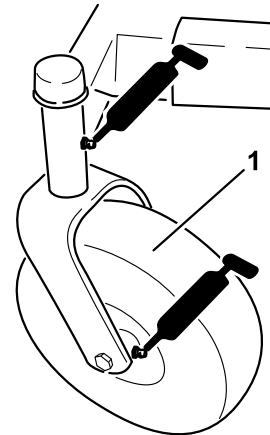
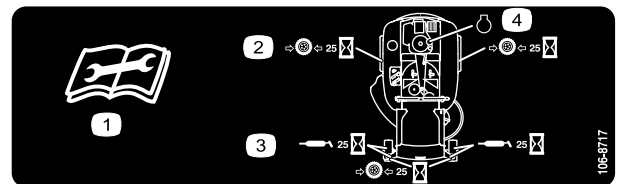

Figure 20
Figure 21
3. Clean the grease fittings (Figure 20 and Figure 21) with a rag. Make sure to scrape any paint off of the front of the fitting(s).
5. Connect a grease gun to each fitting (Figure 20 and Figure 21). Pump grease into the fittings until grease begins to ooze out of the bearings.